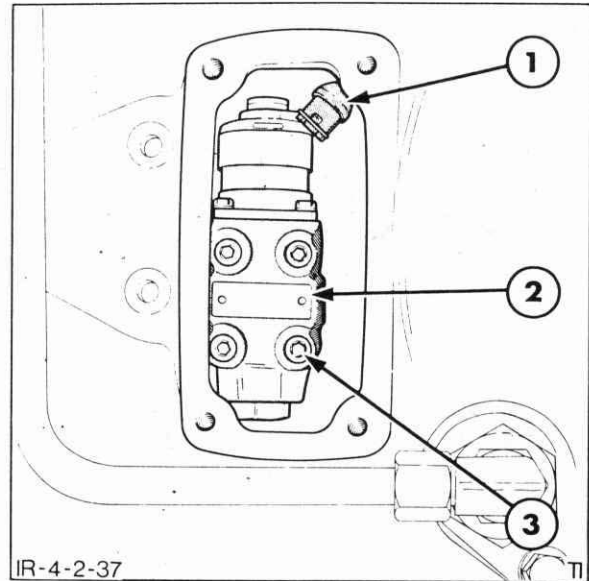

Figure 4-130
3. Remove the lock-up valve retaining bolts and lift the lockup valve from the distributor housing, Figure 4-130.